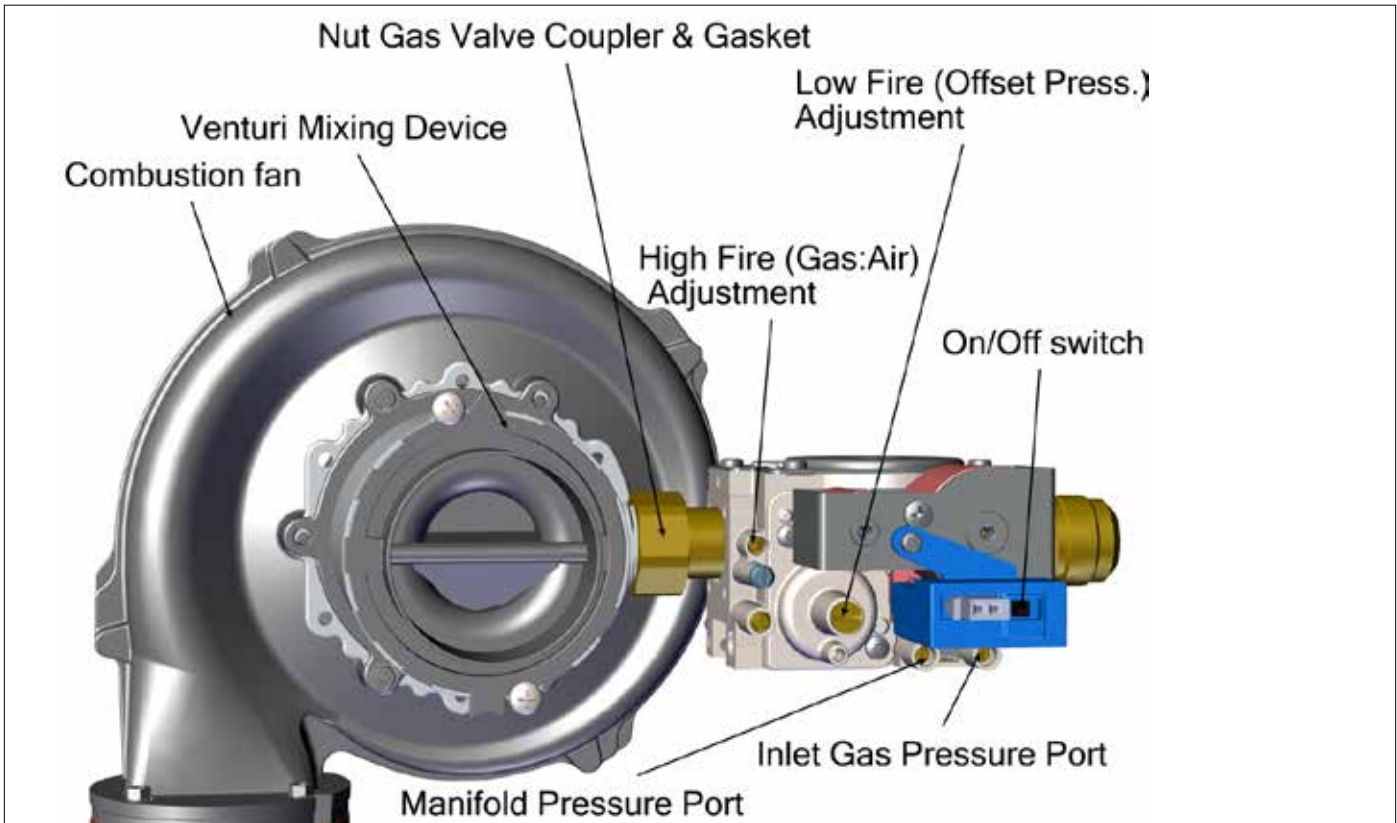
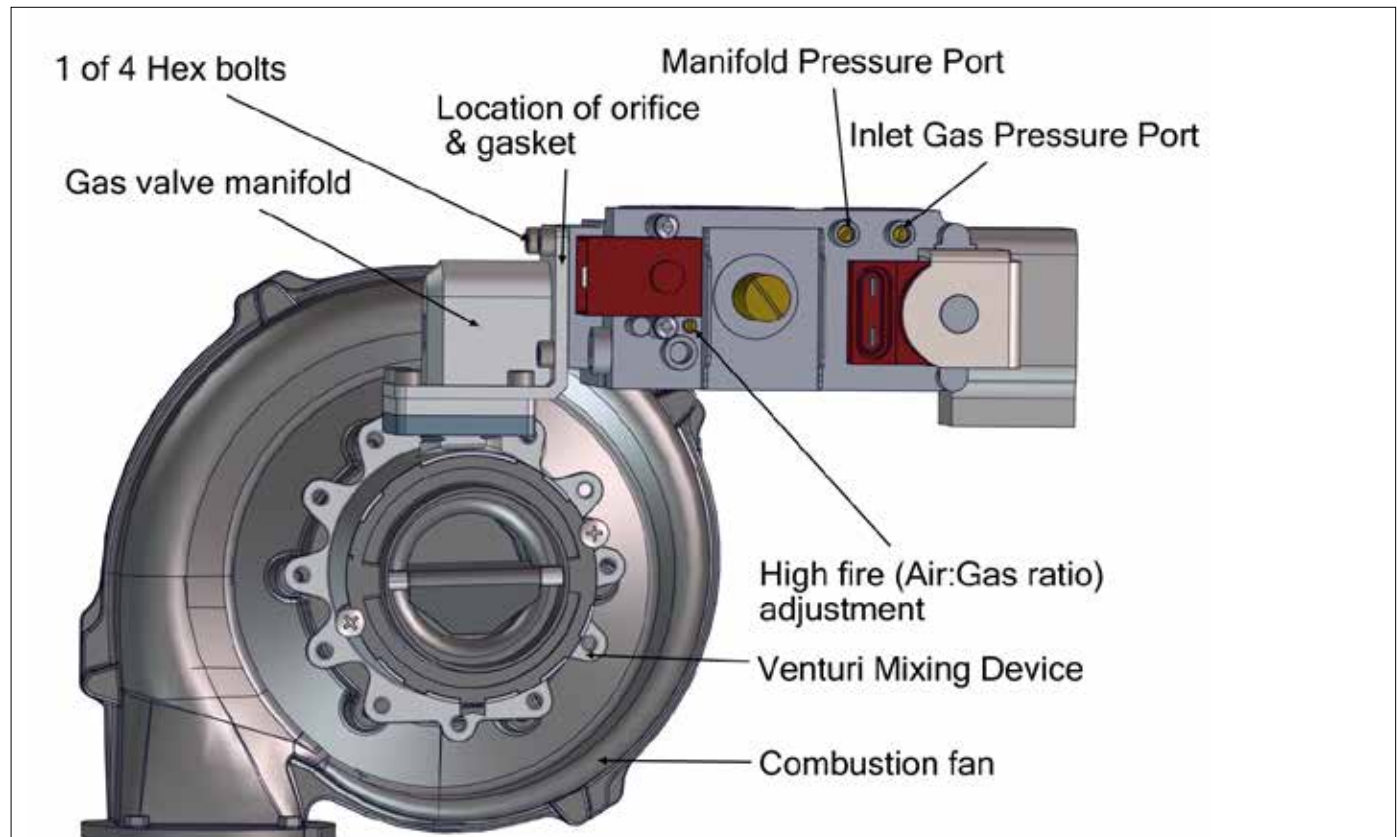

Figure 37A: Gas Valve and Pressure Reference System - SL 26-260 G3
Figure 37B: Gas Valve and Pressure Reference System - SL 40-399 G3
3. With a combustion analyzer probe in the flue gas test port, turn the High Fire (Gas:Air Ratio) Adjustment screw (see Figure 37A and Figure 37B) (see Table 7 below for the corresponding CO₂ values - set the CO₂ target at high fire). This screw offers very fine adjustment, and may require several turns.